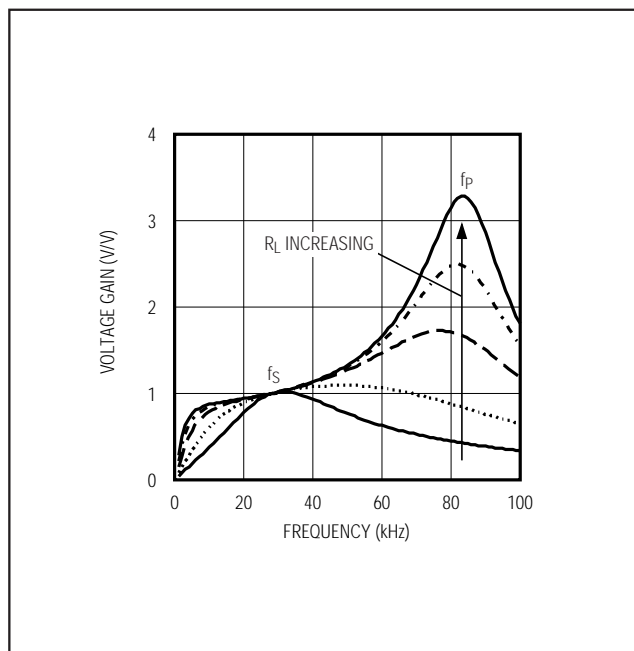

Figure 5. Frequency Response of the Resonant Tank
Figure 5 shows the frequency response of the resonant tank's voltage gain under different load conditions. The primary series capacitor is 1 $\mu$ F, the secondary parallel capacitor is 15pF, the transformer turns ratio is 1:93, and the secondary leakage inductance is 260mH. Notice that there are two peaks,  $f_S$  and  $f_P$ , in the frequency response. The first peak,  $f_S$ , is the series resonant peak determined by the secondary leakage inductance (L) and the series capacitor reflected to the secondary ( $C'S$ ):